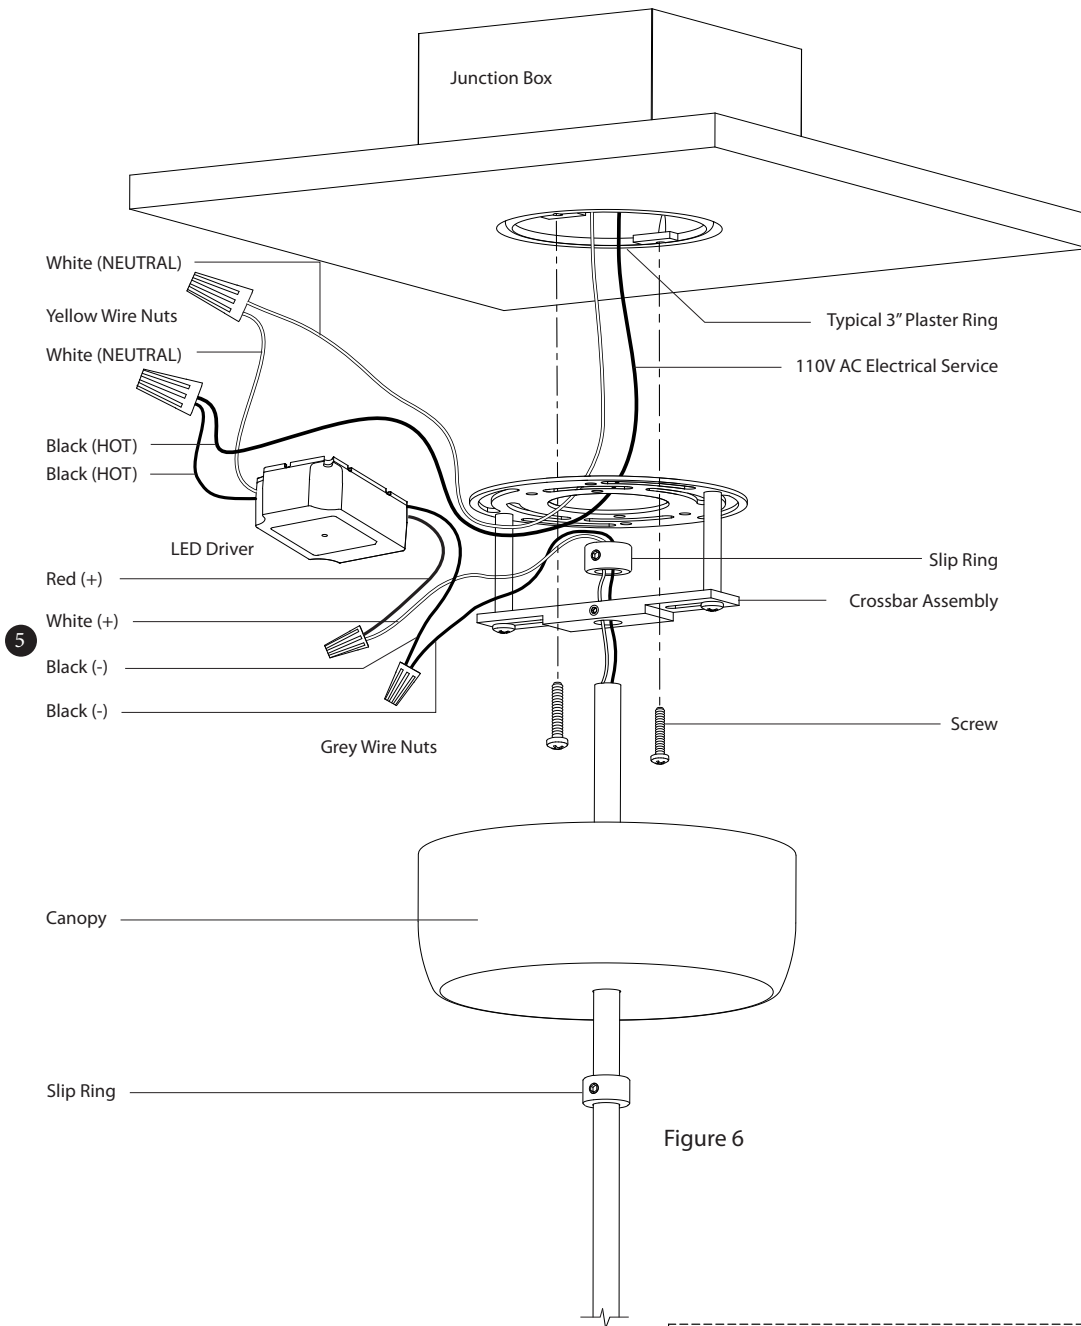

Figure 6
- 5 Make electrical connections as shown in figure 6 (following page) using the supplied wire nuts.